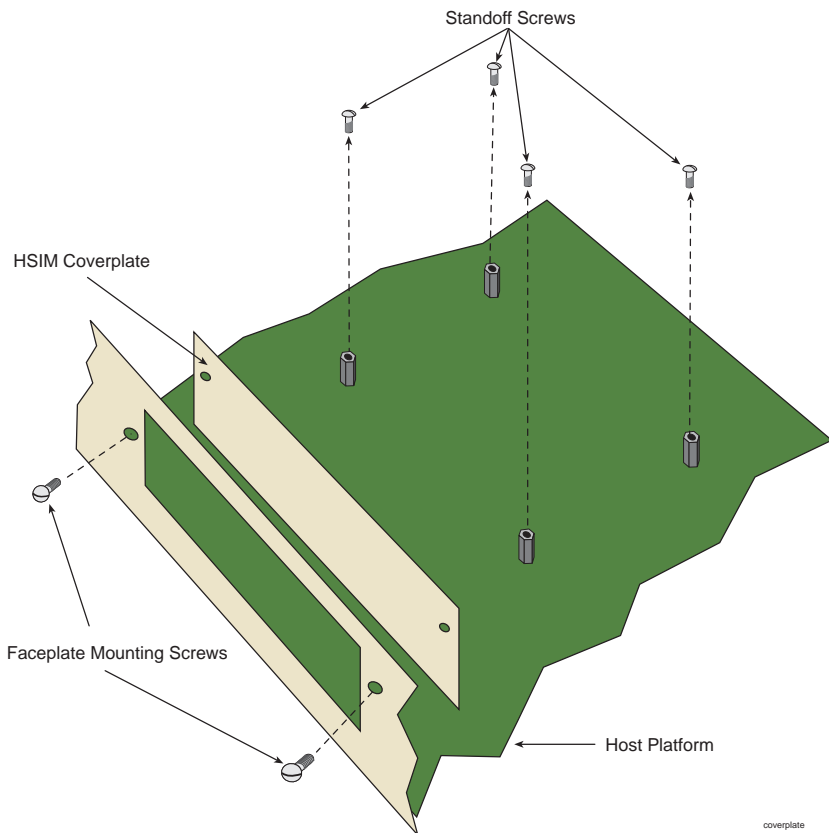

Figure 2-1 Removing the HSIM Coverplate
5. Refer to Figure 2-1 and remove the two faceplate mounting screws and the HSIM coverplate. Save the screws.
6. Refer to Figure 2-1 and remove the four standoff screws. Save the screws.
5. Refer back to Figure 2-1 and remove the two faceplate mounting screws and the HSIM coverplate. Save the screws.